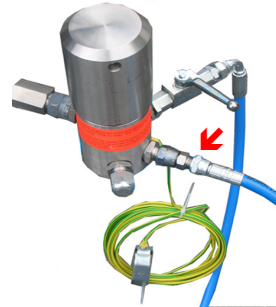

fig. 4.1
- optional version with high pressure filter (fig. 4.1):